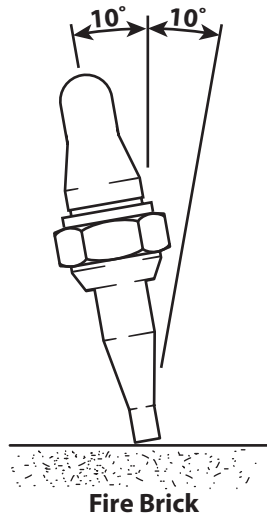

Figure 4-1
7. Place the tip on a fire brick at approximately 10° from the vertical (See Figure 4-1). Depress the cutting oxygen lever. Rock the torch from side to side for 5-8 seconds. The torch will "pop" during this operation.